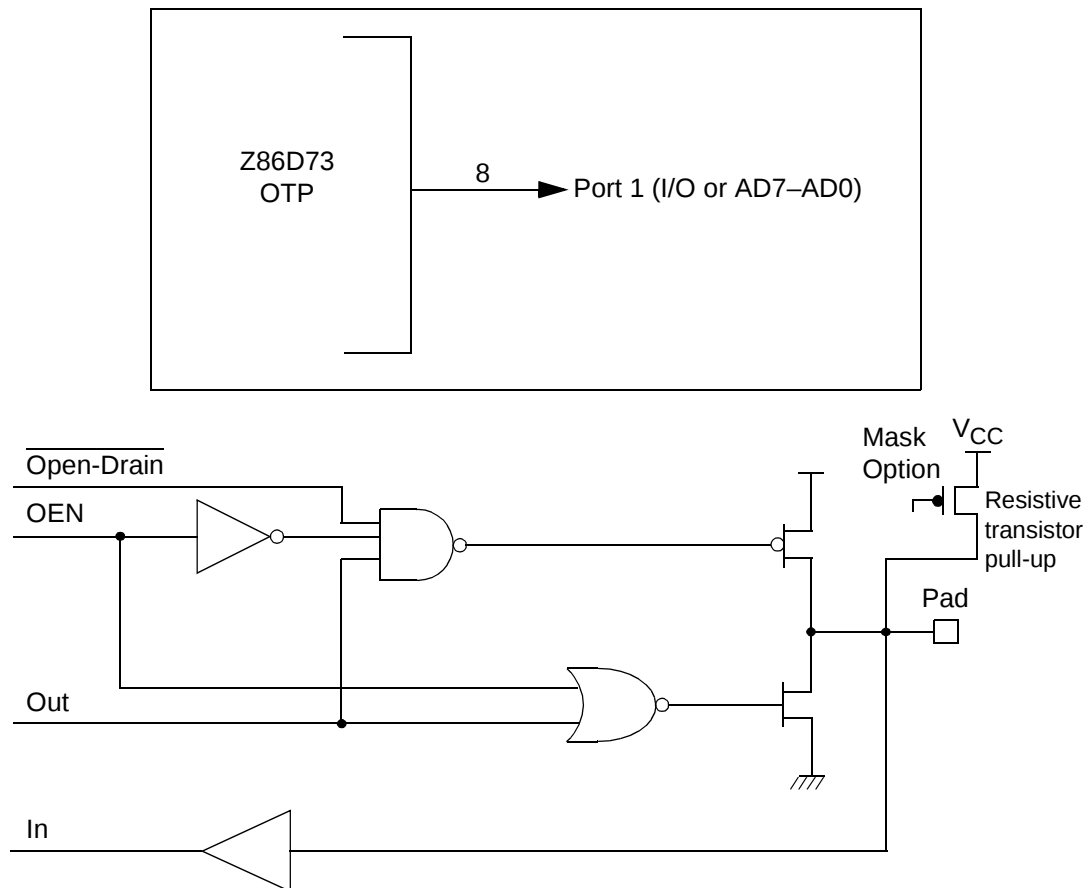

Figure 11. Port 1 Configuration
Port 1 (see Figure 11) is a multiplexed Address (A7–A0) and Data (D7–D0), CMOS-compatible port. Port 1 is dedicated to the ZiLOG ZBus[®]-compatible memory interface. The operations of Port 1 are supported by the Address Strobe ($\overline{AS}$) and Data Strobe ($\overline{DS}$) lines and by the Read/Write (R/W) and Data Memory (DM) control lines. Data memory read/write operations are done through this port. If more than 256 external locations are required, Port 0 outputs the additional lines.